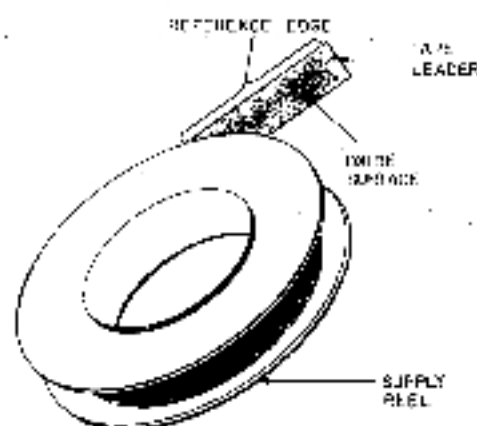

Figure 1-3 Reference Edge of Tape
1. **Reference Edge** -- The edge of the tape as defined by Figure 1-3. For tape loaded on a TSOB, the reference edge is toward the observer.